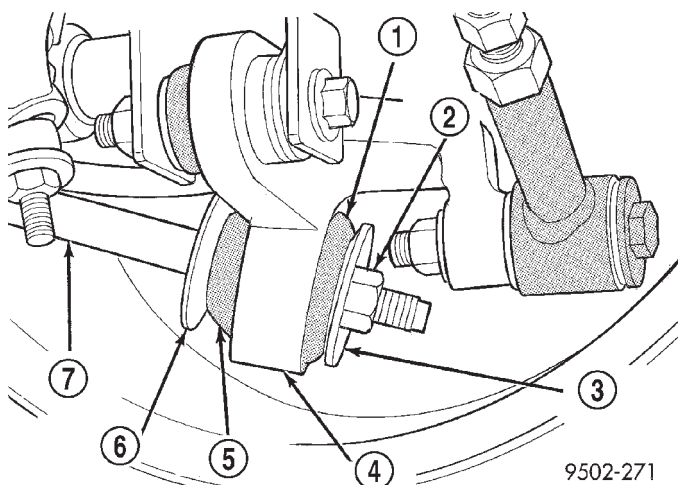

Fig. 35 Trailing Link To Knuckle Attachment
(1) Raise vehicle on jackstands or centered on a frame contact type hoist. See Hoisting in the Lubrication and Maintenance section of this manual, for the required lifting procedure to be used for this vehicle.
(2) Remove rear wheel and tire assembly from the vehicle.
(3) At the knuckle, remove the nut, bushing retainer and outer trailing link bushing (Fig. 35) from the trailing link.
CAUTION: When installing trailing link bushing retainers, the retainers must be installed with cupped side of retainer facing away from bushing and knuckle (Fig. 35).
(5) At the knuckle, install the outer trailing link bushing, (gold) outer bushing retainer and retaining nut on trailing link (Fig. 35). Using a large adjustable wrench on flat of trailing link to keep it from rotating tighten the trailing link retaining nut (Fig. 35) to a torque of 99 N·m (73 ft. lbs.).